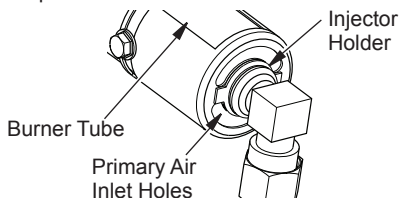

Figure 47 - Injector Holder On Outlet Burner Tube
2. Inspect burner, pilot and primary air inlet holes on injector holder for dust and dirt (see Figure 47).